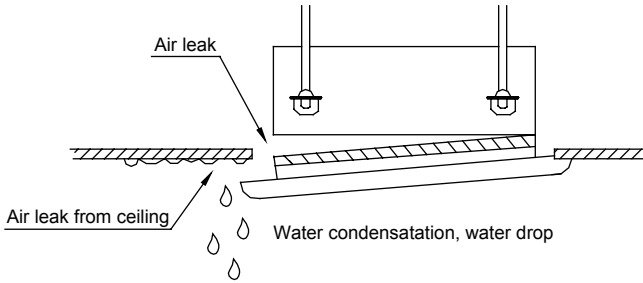

Fig.14
- ① . Improper screwing of the screws may cause the troubles shown in Fig.14.